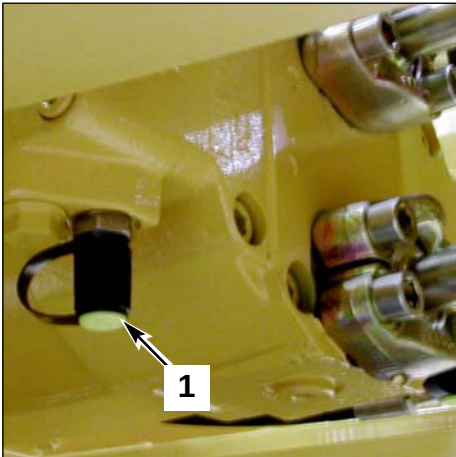

Fig. 1 Transfer movement engine
- 3- The pressure (1 fig. 1) in the transfer movement engine rises slowly and then drops sharply.